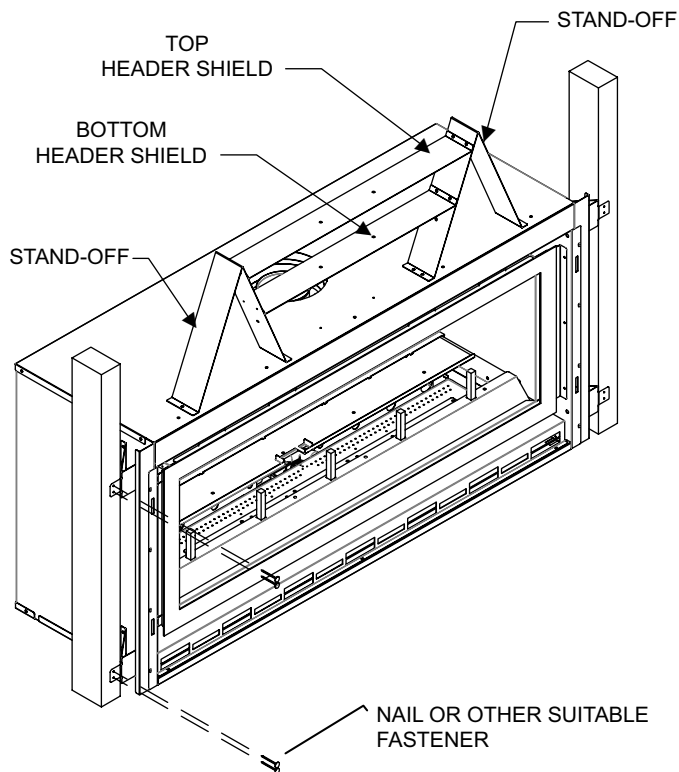

Figure 12
1. Locate the two (2) steel standoffs and two (2) header shields attached to the back of the fireplace.
2. Remove the two (2) screws that secure the standoffs and header shields in place; save the screws.
4. Bend the short tabs on each end the opposite direction. Secure the standoffs to the fireplace top with three (3) screws each from the hardware bag. There are pilot holes located in the top of the fireplace for each stand-off.
6. Locate the bottom header shield; it is the shorter one. Using four (4) screws, attach it between the standoffs.
7. Locate the top header shield; it is the longer one. Using four (4) screws, attach it between the standoffs. **See Figure 12.**
10. Attach the fireplace to the framing. **See Figure 12.**
The fireplace must extend 3/4 in. (19mm) beyond finished wall surface when using a flush mount mantel. Refer to Figure 12 to locate nailing flanges on fireplace sides. Mark and drill four (4) 1/8 in. holes into fireplace side to mount each nailing flange. Use eight (8) 1/2 in. hex-head screws supplied in hardware package to attach nailing flanges to fireplace sides.